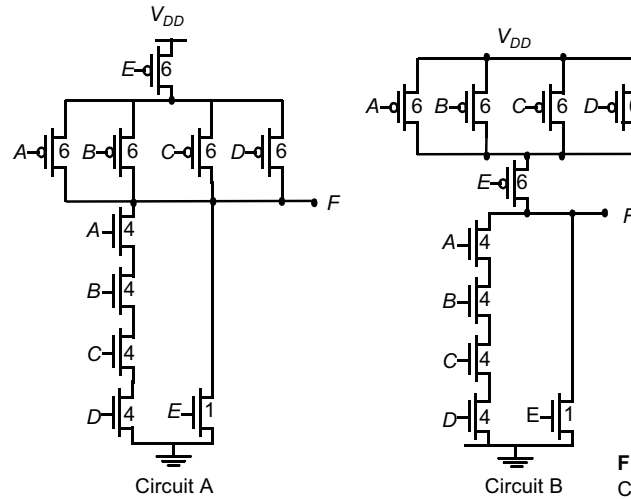

Figure 6.2 Two static CMOS gates.
- a. Do the following two circuits (Figure 6.2) implement the same logic function? If yes, what is that logic function? If no, give Boolean expressions for both circuits.